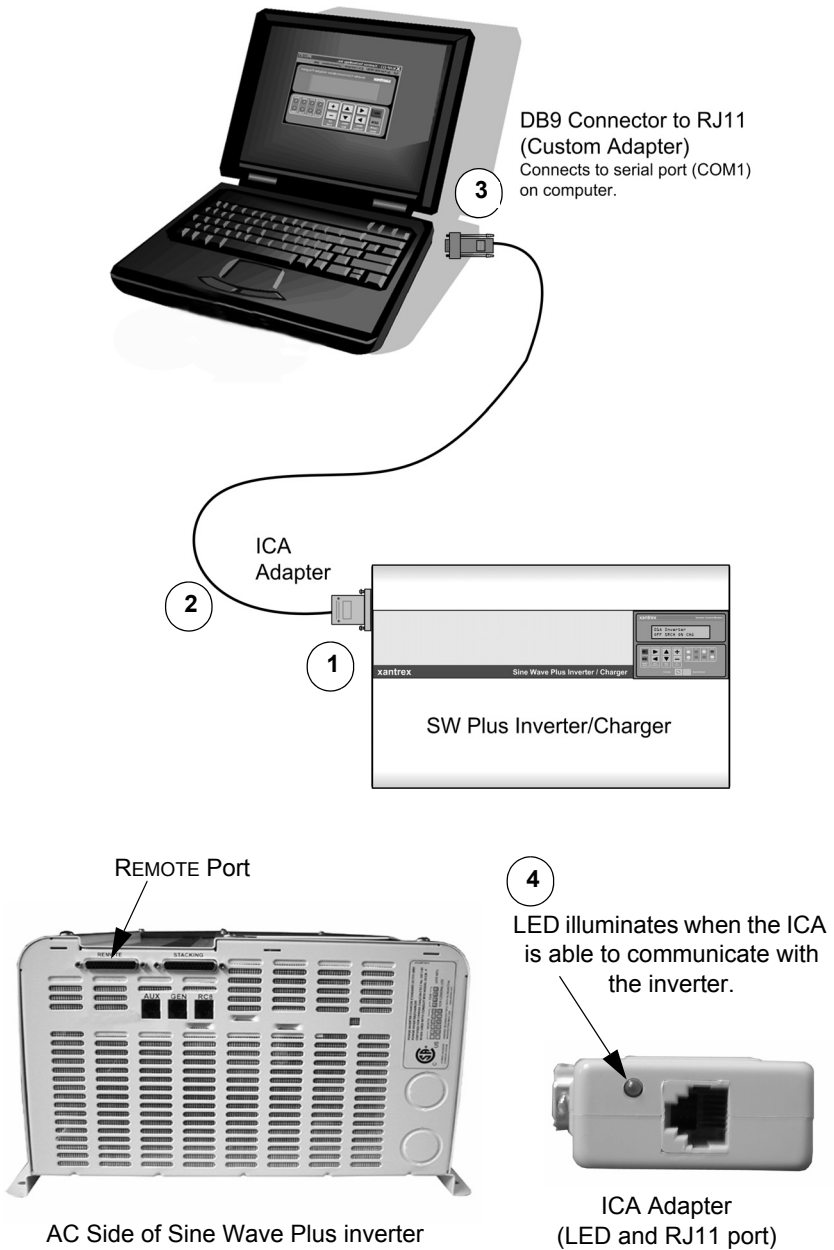

Figure 1-2 Connecting Directly to the Inverter
See Figure 1-2 for the location of the Remote Port on the Sine Wave Plus Inverter/Charger.
1. Connect the ICA adapter to the Sine Wave Plus Inverter/Charger remote port located on the left end of the inverter, near the AC wiring compartment (Figure 1-2).
3. Plug the serial port adapter into the computer's serial port (Figure 1-2).